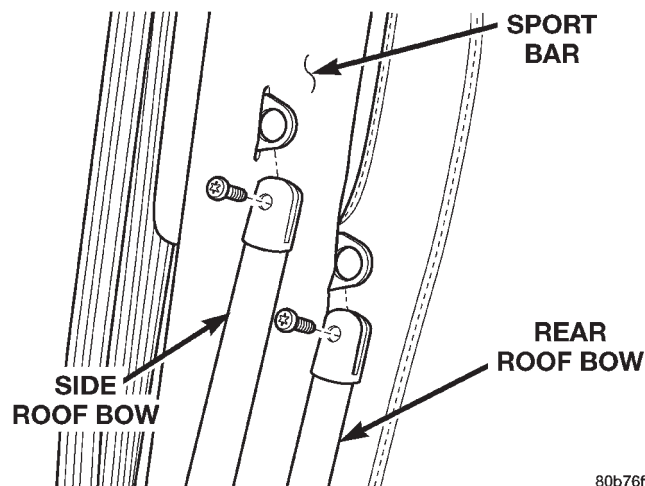

Fig. 47 Roof Bow Removal
(8) Remove the screws attaching the roof bows to the pivot bracket (Fig. 47).
(9) Lift up bows at pivot bracket to disengage from pivot bracket.